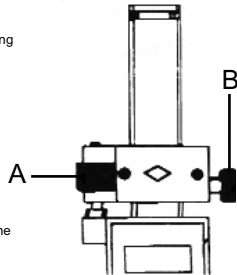

Fig 3
- 3.7.2 Using adjustment screw A (Fig 3) raise the fine adjustment set so that it's base is above the point being measured.
- 3.7.3 Tighten fixing screw B (Fig 3) in order to fix the position of the fine adjustment set.
- 3.7.5 When the desired measurements have been made, release the fixing screw B (Fig 3) and retract the fine adjustment set.